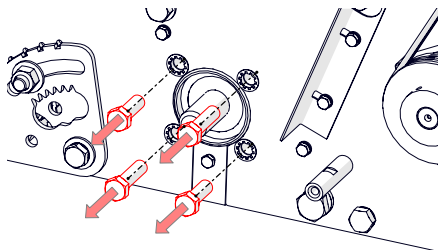

Fig. 18H - Remove cylinder securing bolts from LH side.
9. Remove the 4 x M12 hex bolts (Fig. 18H) securing the cylinder on the left-hand side.